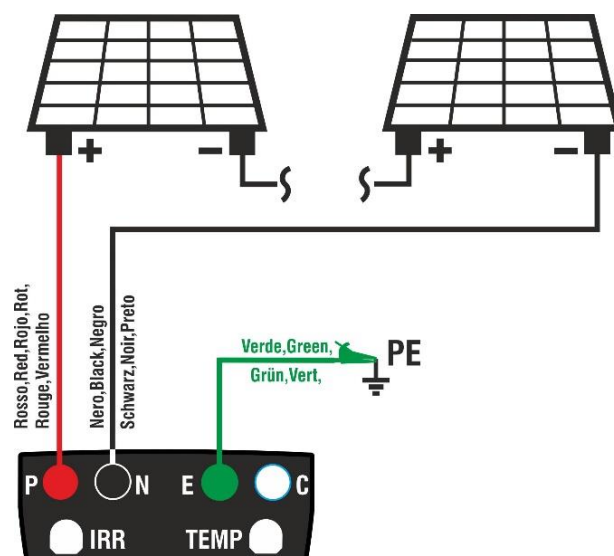

Fig. 9: Instrument connection for insulation measurement in GFL mod
8. Connect the instrument to the PV string to be tested as shown in Fig. 9. **Please remember that it is also necessary to separate possible overvoltage protections connected to the cables of the string, and that it is recommended to measure upstream of possible blocking diodes.**